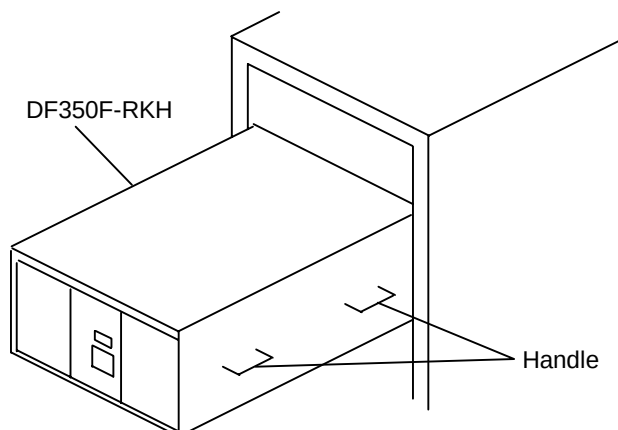

Figure 1.4.6 Installing the Subsystem in the Rack
1.4.5 Installing the subsystem into the rack (See Figure 1.4.6.)